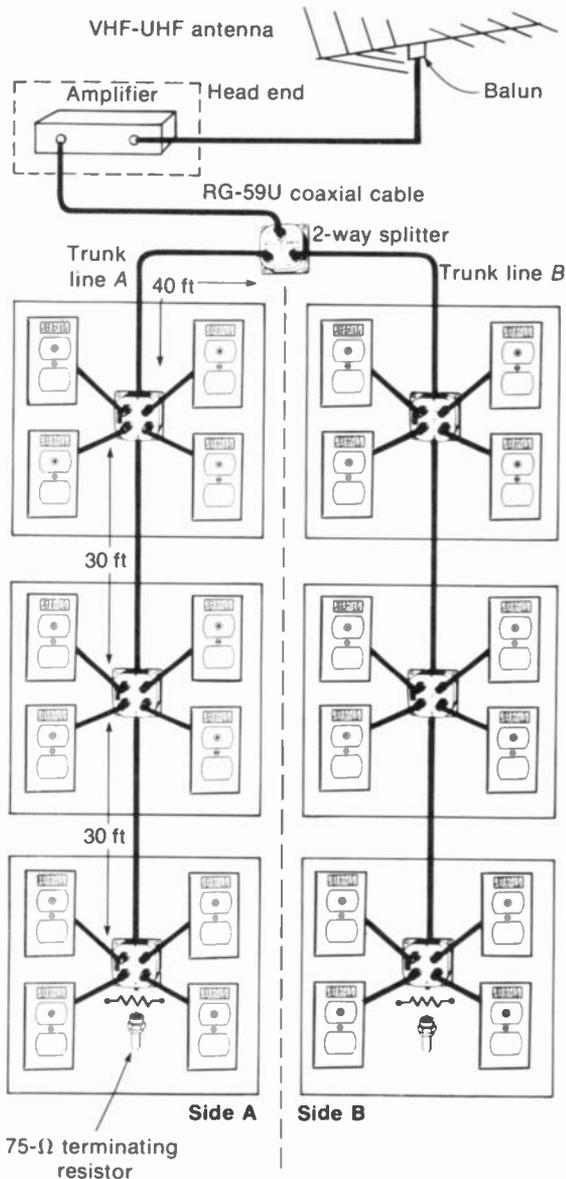
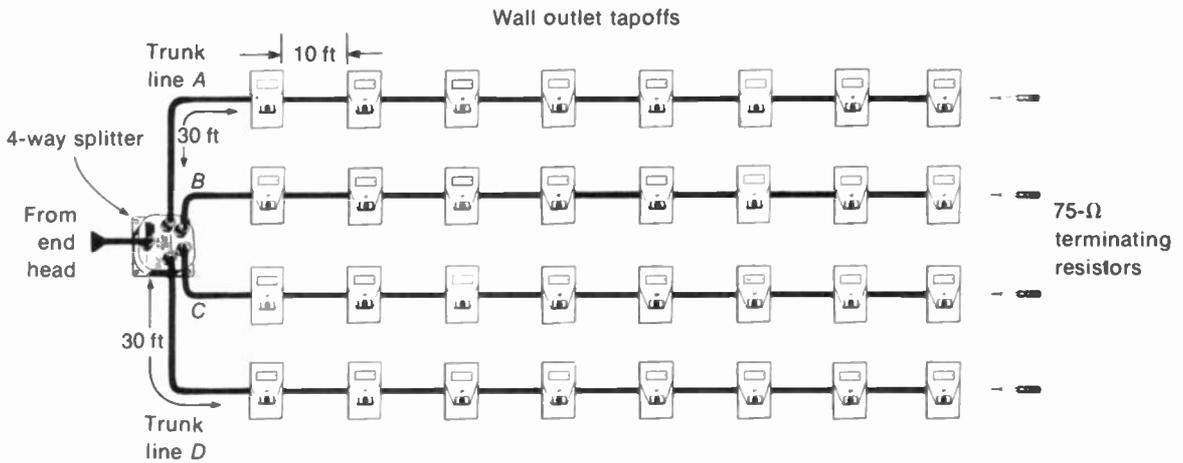

FIGURE 26-1 CABLE DISTRIBUTION SYSTEM FOR 24 RECEIVERS WITH FOUR-WAY MULTITAPS FOR GROUPS OF FOUR WALL OUTLETS. SEE TEXT FOR EXPLANATION.
FIGURE 26-6 CABLE DISTRIBUTION SYSTEM FOR 32 RECEIVERS, USING FOUR-WAY SPLITTER AND SINGLE TAPOFFS.
The requirements of cable distribution systems are illustrated by the system in Fig. 26-1, which delivers antenna signal for the VHF and UHF channels to 24 television receivers. Note the symmetry, with two identical trunk lines of 12 sets each. Sufficient signal is provided by the head end, which consists of an amplifier fed by the master antenna. A two-way splitter divides the amplified output for trunk lines A and B. In the trunk line, four-way multitaps are used. Each taps off part of the signal to wall outlets for a group of four receivers. This layout would be for a dealer's showroom, to operate 24 sets from one antenna. Each receiver should have a signal of approximately 1 to 5 mV. All the distribution lines use coaxial cable with a nominal impedance of 75  $\Omega$ . The amplifier gain and the distribution losses are generally expressed in decibel (dB) units because these values can be simply added or subtracted. More details are explained in the following topics:
**Cable termination for the last tap.** In general, a tap has connections for the tapoff, plus the input and output lines. The in and out connections are only a continuation of the trunk line. However, the last tap has no place to go on the output side. This end must be terminated with  $75\ \Omega$  to match the impedance of the line. In Fig. 26-1, each of the trunk lines is terminated with a plug that has the required  $75\text{-}\Omega$  resistance.
The distribution losses can be grouped in three categories: cable loss, insertion loss, and isolation loss. Insertion losses are added throughout the trunk-line distribution. The isolation loss is just at the tapoff for each receiver. Specific examples will be calculated now for the distribution with four-way tapoffs in Fig. 26-1 and the commonly used method with single tapoffs, which is illustrated in Fig. 26-6.
Refer to the distribution in Fig. 26-1. The cable length for each trunk is 30 ft + 30 ft + 40 ft from the two-way splitter. No length is added for the wall outlets because we assume they are close to the multitaps. The total cable length, then, is 100 ft. We can use foam RG-59U, which has a loss of -6.4 dB for the UHF channels. All the losses here are for a VHF-UHF system.
The four-way multitap has an insertion loss of -1.5 dB for UHF. This loss is for the whole unit, from the input to output connections. However, the loss of the last unit on the trunk is not added because this signal does not feed through. In Fig. 26-1, therefore, the total insertion loss of the multitaps is  $2 \times -1.5 = -3$  dB for each trunk line.
Refer to the distribution in Fig. 26-6. The losses in this layout are calculated for each of the four trunks. Each line has a length of  $70 + 30 = 100$  ft. The calculations are for VHF only, assuming that any UHF channels will be converted to VHF. There are seven tapoffs, plus one termination, for each trunk. The tabulation is: